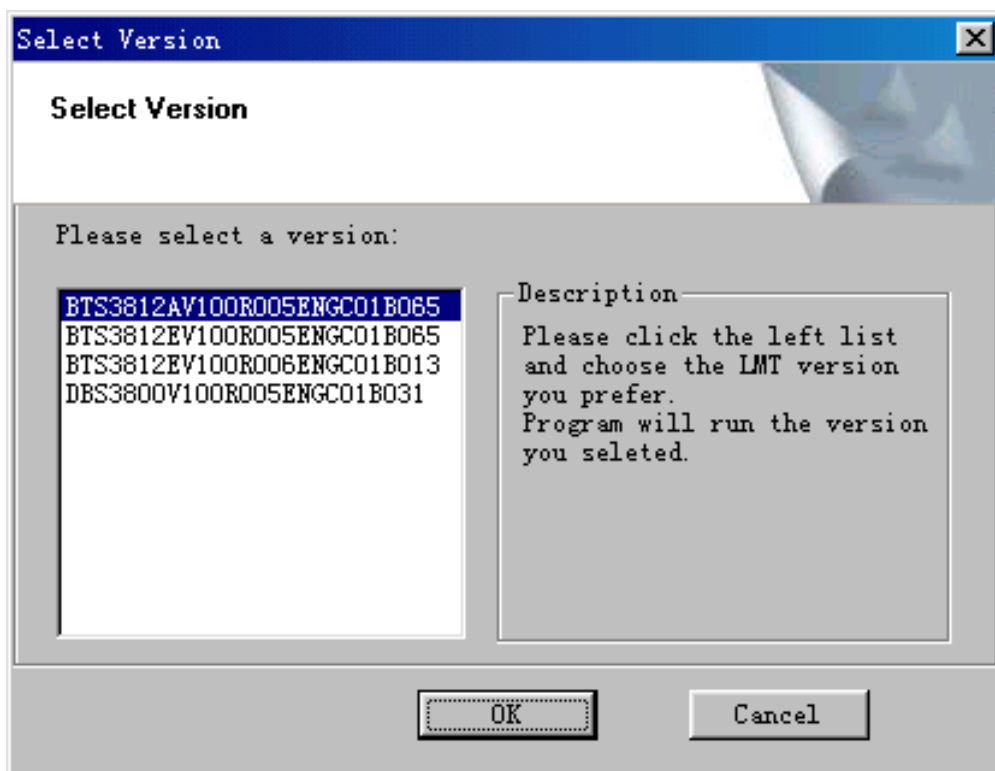

Figure 8-5 Select Version dialog box
- 2) Select the relevant NodeB version in the **Select Version** dialog box as shown in Figure 8-5.